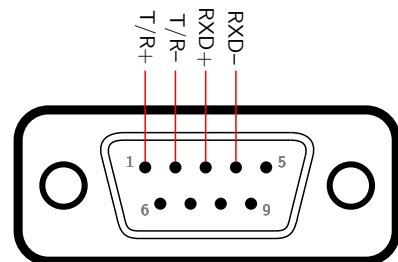

Figure 3.3: DB-9 female connector (solder side).2
1. Solder the pins on the female DB-9 connector as shown in Figure 3.3. Note that the pin numbers shown in the diagram are for the solder side of the connector.